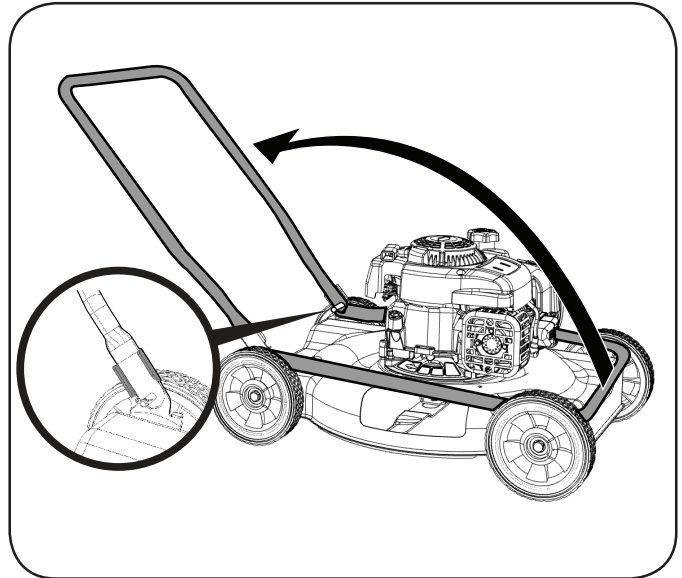

Figure 2
1. Stabilize the mower so it does not move. Pivot the lower handle until it locks into the lower holders (Figure 2).